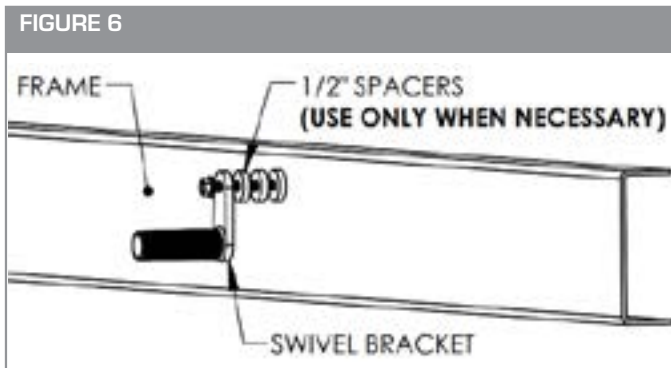

FIGURE 7
- Once the brackets are in position with the fender, tighten the 5/8" x 4-1/2" bolt that goes through the (10001472) swivel bracket to attach the swivel securely to the frame. (See Figure 7)